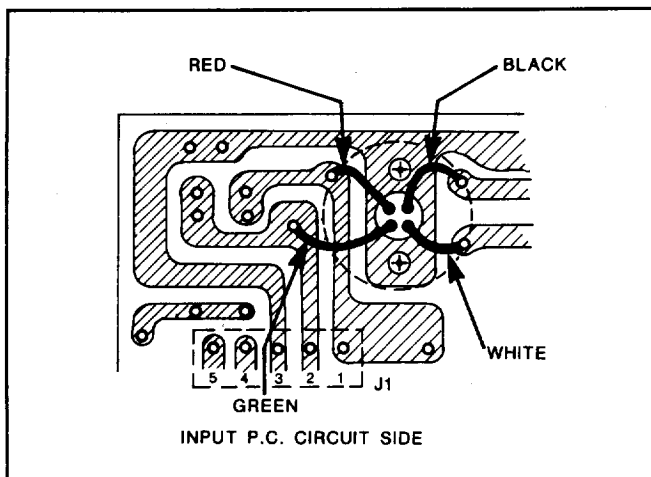

Figure 2 1785A Input Transformer Connections
3. Lay the module on the component side (circuit side up) and attach the four wires as shown in Figure 2.